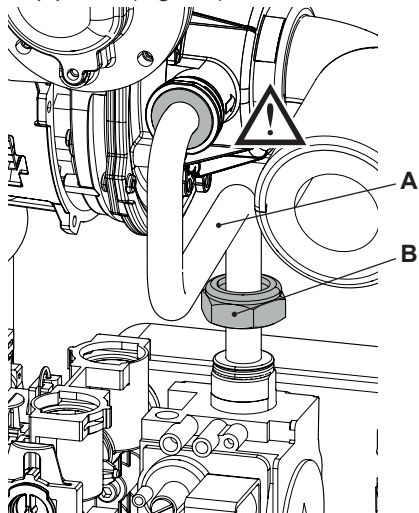

Fig. 9.1
- Unscrew the connector "B" and remove the pipe "A" (Fig. 9.1).